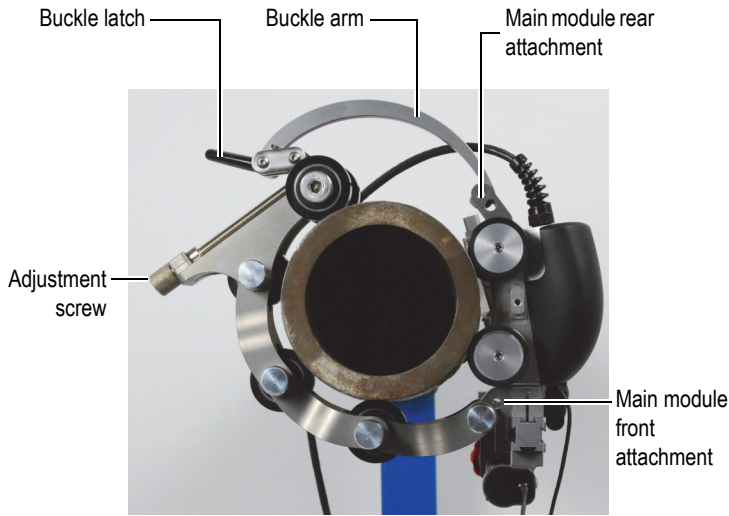

Figure 3-1 Closing the chain around the pipe
5. Adjust the tension of the ChainSCANNER by turning the adjustment screw (see Figure 3-1 on page 62).